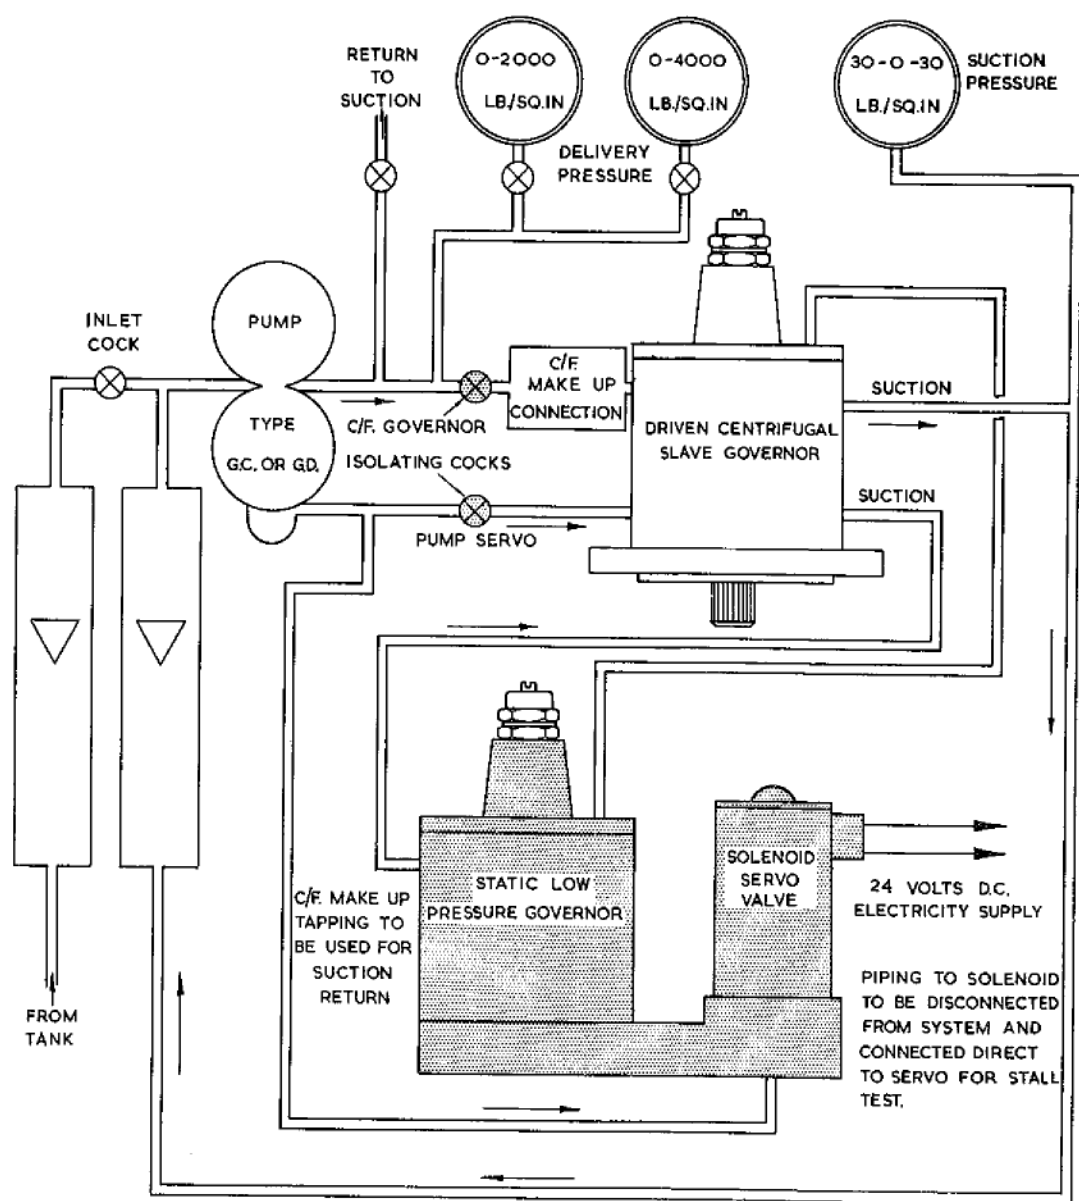

Fig. 10. Diagrammatic layout of test-rig
75. Test-rig layout and equipment is illustrated in fig. 10. The pump to be used is either type GC or GD and must run at a constant speed of 2,900 to 3,100 r.p.m. The servo flow must be 9.0 to 10.0 gal. per hr. at 1,000 lb. per sq. in. pump delivery pressure and 150 gal. per hr. main flow. The pump inlet pressure is to be 10 to 15 lb. per sq. in.